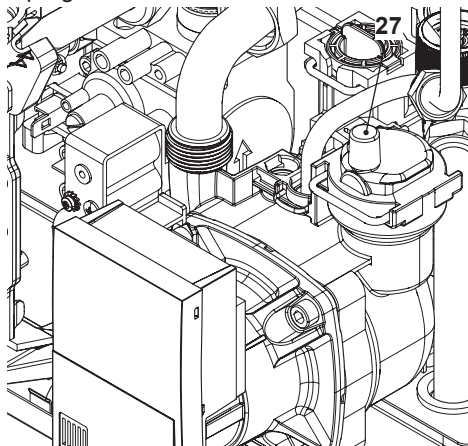

Fig. 9.7
- To make draining easier, lift the plug 27 of the automatic relief valve in Fig. 9.7. To help the draining of the primary circuit loose the condensing heat exchanger air purger valve 18 in 8.